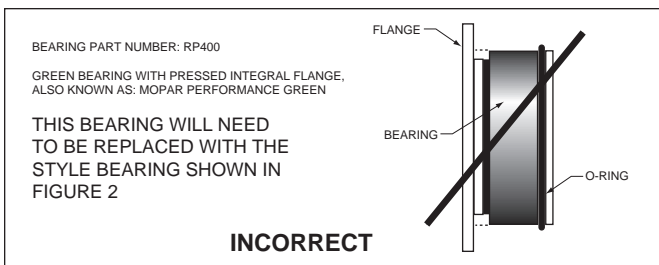
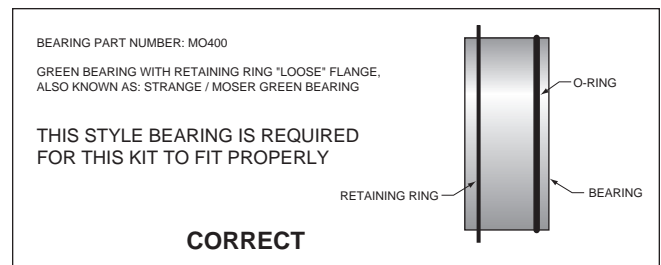

Figure 1. Press Fit Bearing Configuration
Figure 2. Loose Fit Bearing Configuration
- There are two types of “Green Bearings” being supplied by axle manufacturers. Your setup should look like Figure 2 (below right), not the Figure 1 configuration, otherwise this kit will not fit.
• Determine that the appropriate snap ring style Green bearing has been installed on the axle, as shown in Figure 2.